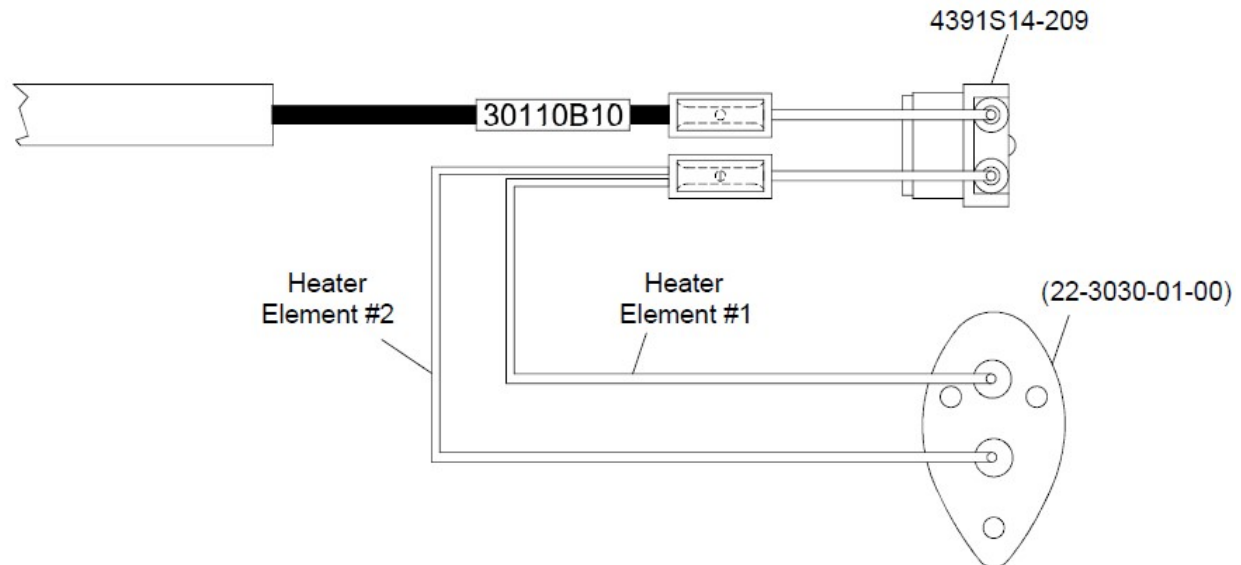

Figure 55: High Thermal Limit Switch and Pitot Probe Wire Installation
- 13.3.4.3 Splice together the 2 heater element leads from the Heated Pitot Static Probe Assembly with the remaining lead of the High Thermal Limit Switch, according to Figure 55. Use the splice provided with the Heated Pitot Static Probe Assembly.